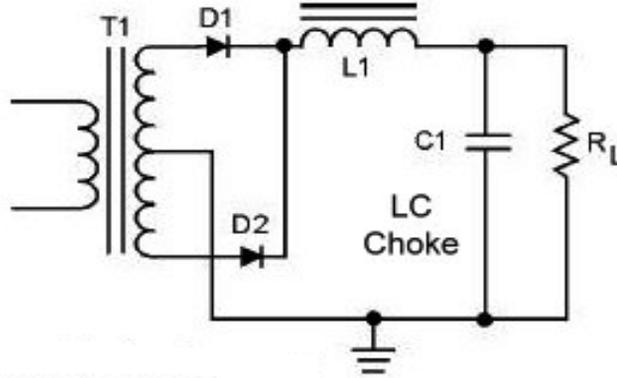

Figure 10.1: Full wave rectifier with LC filter
1. Connect the circuit for Full wave bridge rectifier on breadboard as shown in Figure 10.1